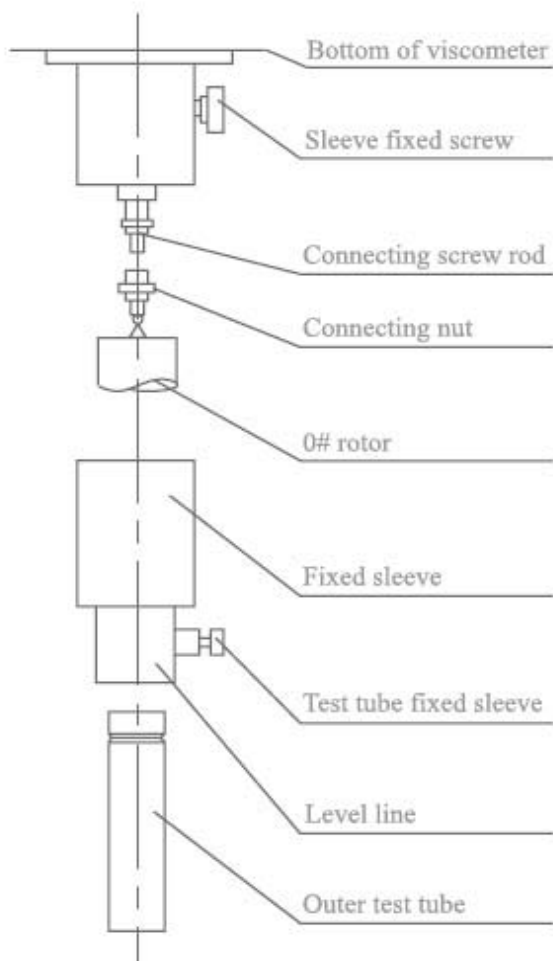

Figure 4
5. 0# Rotor and the testing annex of low viscosity liquid can be used following these steps below. (Figure 4)